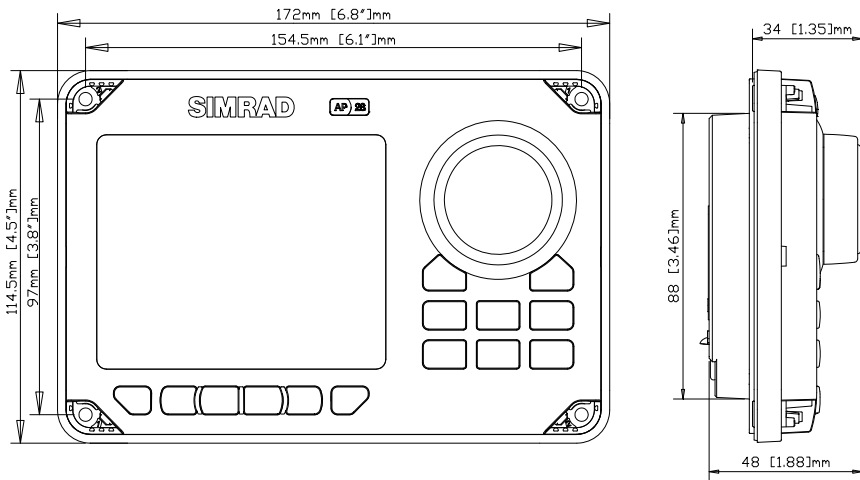

Figure 4-2 AP28 Control Unit – dimensions
- Dimensions: See Figure 4-2
- SimNet Network load factor (NL): 3